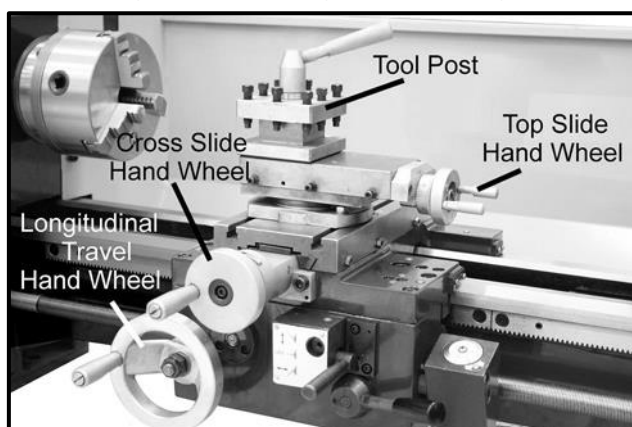

Figure-15 Carriage controls
using the same method as the longitudinal scale. See figure-15.
**TOP SLIDE HAND WHEEL:** The top slide hand wheel controls the position of the cutting tool relative to the work- piece .The top slide is adjustable for angle as well as longitudinal travel. It can be adjusted to a full 360°, if needed. See figure-15.
**TOOL POST:** A four-way tool post is supplied with CX701. Cutting tools can be attached and removed by tightening or loosening the clamping bolt. See figure-15.